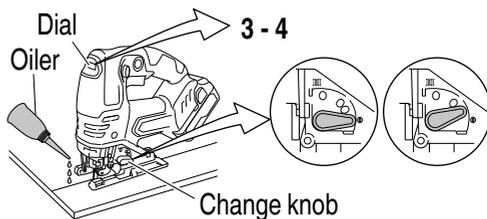

Fig. 28
4. Cutting metallic materials (**Fig. 28**)